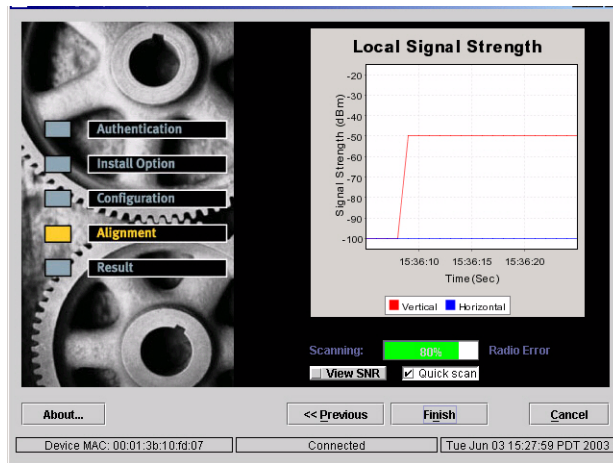

Figure 5-10 Alignment Window – Local Signal Strength Graph
17. When the restart is finished, the AIM will go into antenna alignment mode, displaying the Alignment Window shown in *Figure 5-10*.
When the Alignment Window is displayed (*Figure 5-10*), the ODU will begin slowly beeping. The beep is an audio indication of the strength of the signal received from the base station. As reception gets stronger (within the range from -50dBm to -100dBm), beeping increase in pitch and frequency, becoming a continuous tone when the signal is optimal.
18. For most situations, verify that **Quick scan** in the Alignment window is checked as shown in *Figure 5-10*. This will cause the PacketWave 200 to scan through frequencies and transmission variables such as gain more quickly than it would otherwise do. Generally, **Quick scan** should be unchecked only when there are multiple frequencies (AFS) or the SU will be connected to more than one BSU/WSS for backup.
- a. While viewing the graph shown in *Figure 5-10*, move the antenna to maximize the signal strength as shown on the graph. Values greater than -82 dBm will work in 16QAM. Values greater than -89 dBm will work in QPSK.
4. The Alignment Window will be displayed, as shown in *Figure 5-10*.